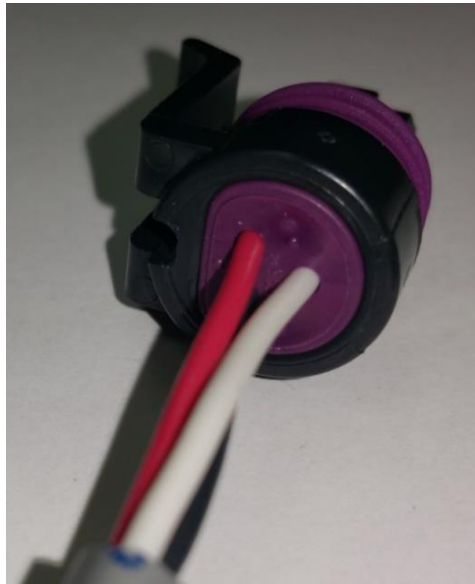

Figure 4
- 1) Locate the rear of the 3 wire pressure sensor connector (Figure 4).